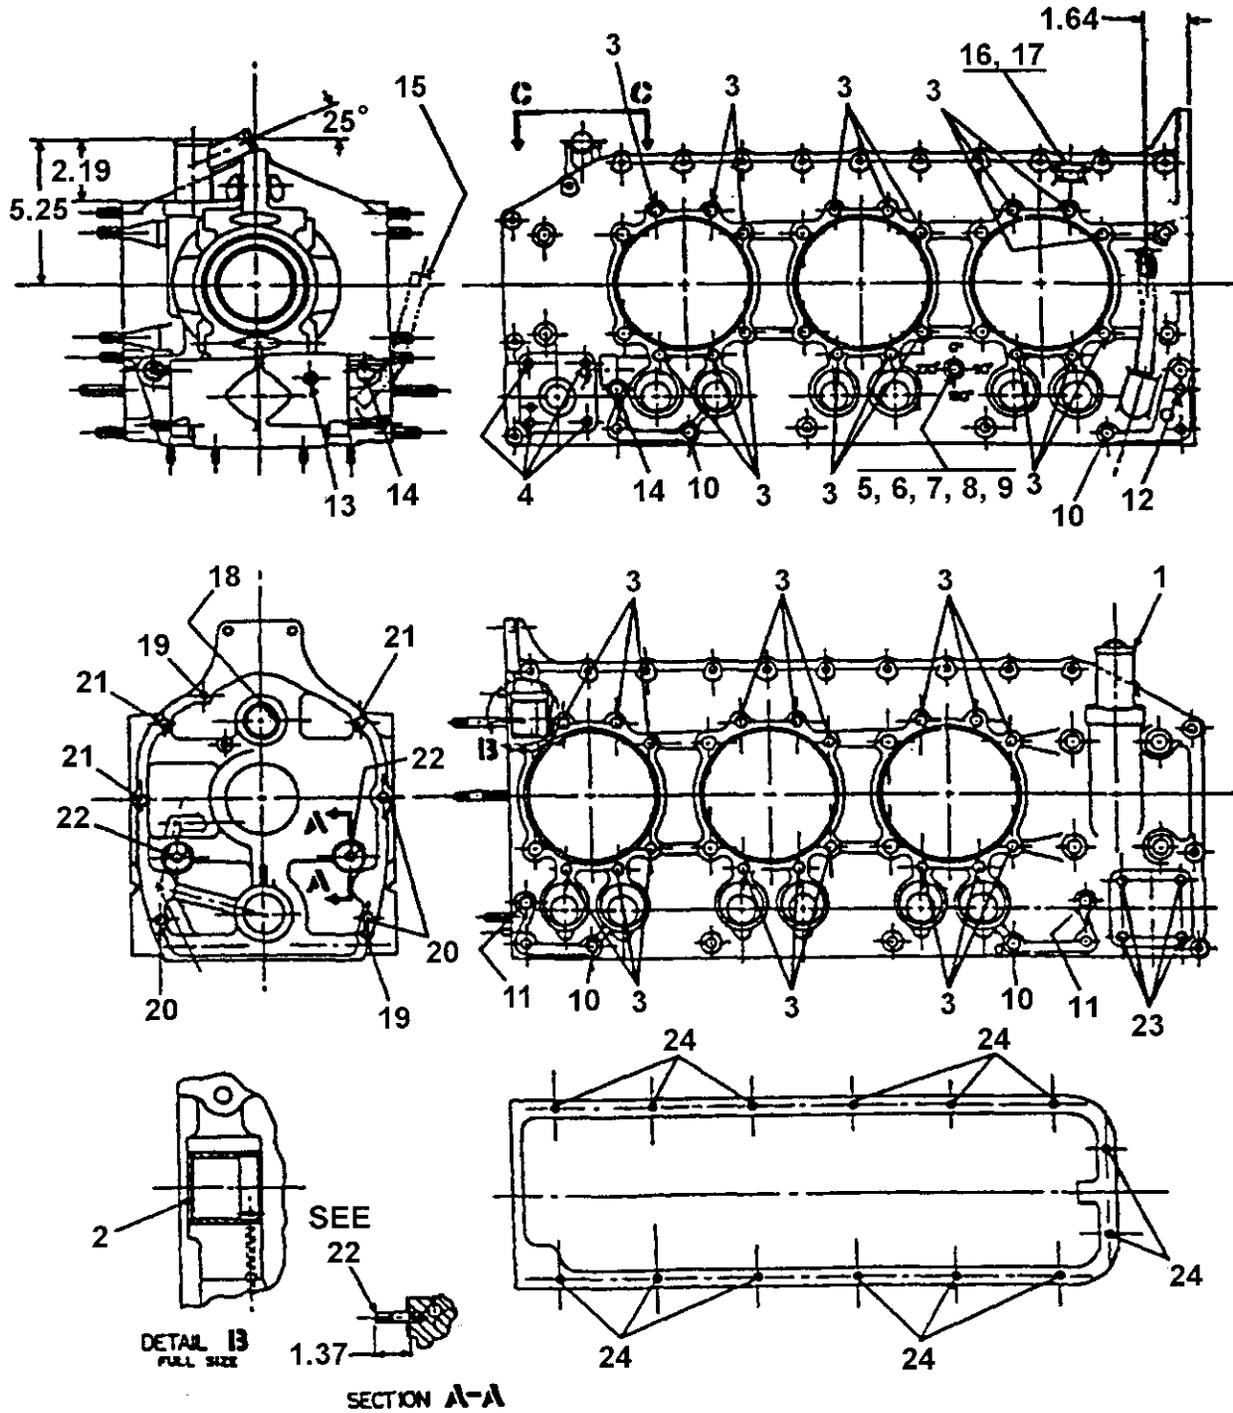

FIGURE 17-3. CRANKCASE STUD SETTING HEIGHTS
17-1 CRANKCASE STUDDING DISASSEMBLY (See Figure 17-3.)
CRANKCASE STUD SETTING HEIGHTS (See Figure 17-3.)
3. Any crankcase stud found to be damaged or loose must be replaced in accordance with the instructions in Section 5-22. See Figure 17-3, "Crankcase Stud Setting Heights," for proper stud setting heights. See the following for crankcase cylinder mount deck studs.
1. See Figure 17-3, "Crankcase Stud Setting Heights." Install all pipe plugs that were removed in accordance with the specifications in Figure 17-3 as applicable. Before installation, apply Loctite Pipe Sealant with Teflon (PS/T) sparingly on the pipe plug male threads. Install and torque
2. Install a new oil gauge lock ring (10) on oil gauge housing (9). Assemble housing (9) to crankcase oil gauge housing extension using a new hose (8) and two clamps (7). Torque clamps (7) to 12-16 inch pounds.